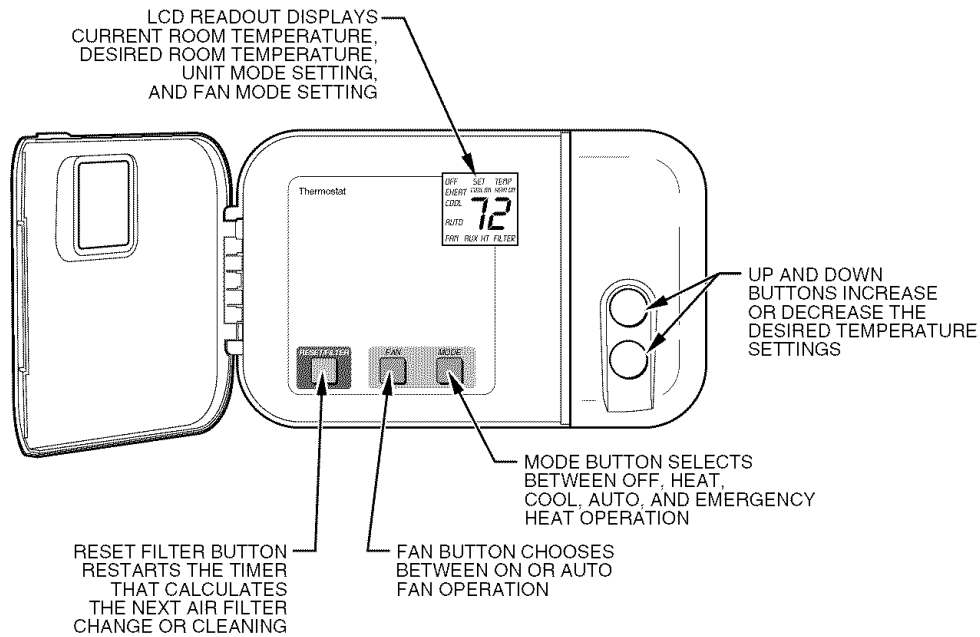

Fig. 2—Typical Carrier Non-Programmable Thermostat
- Your multipurpose indoor thermostat is the control center for your heat pump system. You should familiarize yourself with its proper operation. Attempting to control the system by other means—for instance, switching the electrical supply power ON and OFF—may cause damage to the unit. (See Fig. 2 and 3.)